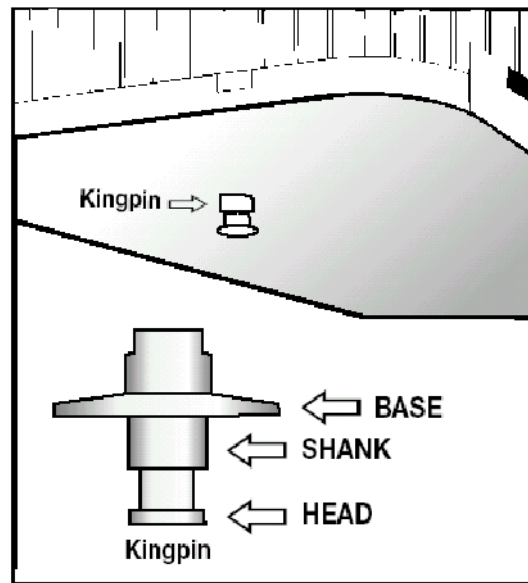

Figure 6.8
- > Locking jaws around the shank, not the head of kingpin. See Figure 6.8.